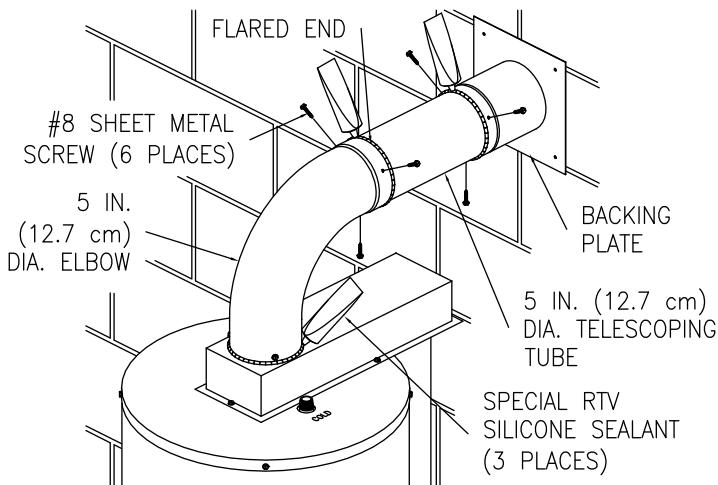

Figure 11
11. From inside the building, slide the backing plate over the six (6) inch (15.2 cm) diameter telescopic tube until it is flush with the wall. Adjust the length of the six (6) inch (15.2 cm) diameter telescopic tube and insert the end into the flared end of the six (6) inch (15.2 cm) diameter elbow one (1) inch (2.5 cm) (*or until seated*). Drill three (3) 1/8 inch (3.0 mm) diameter holes, 120° apart, through the six (6) inch (15.2 cm) diameter elbow into the six (6) inch (15.2 cm) diameter telescopic tube and through the tubes where the small and large sections overlap. Fasten with three (3) #8 sheet metal screws (supplied). Using the supplied special RTV silicone sealant, apply a sufficient amount to seal all joints (See Figure 11).